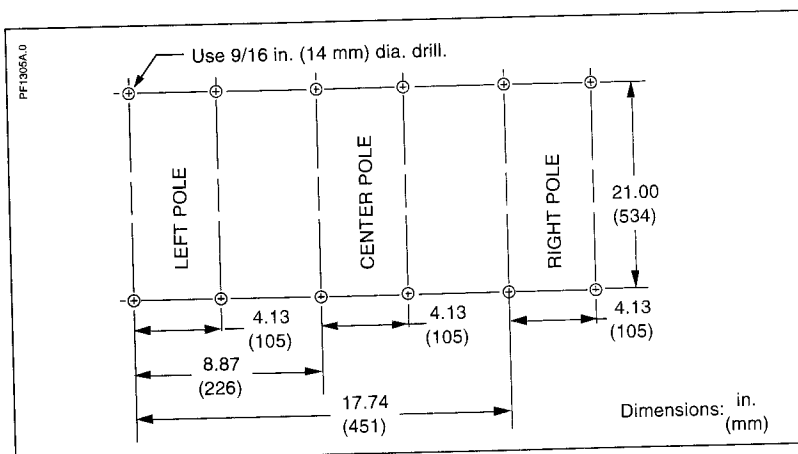

Figure 11 Mounting Hole Pattern
4. Check mounting hole pattern (see Figure 11) on switchboard cross channels or other mounting base.